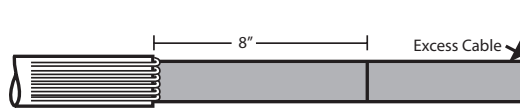

Fig. 2 - Jacket & Neutral Prep
B. To provide sufficient length of concentric neutral conductor for grounding after installation, measure 8" down the cable from the centerline of the bushing interface and remove the outer jacket to this distance. Care should be taken not to damage neutral wires. See Figure 2.